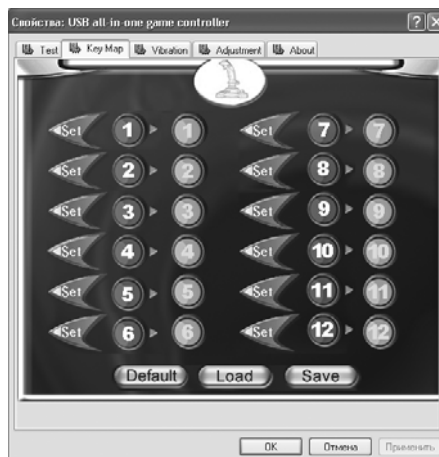

Fig. 6
- Reprogramming of buttons. Click KeyMap button in the menu (Fig. 6) on your PC interface to start programming keys in the setup window; then click the Set button in front of the digital buttons that need to be reprogrammed and press the same button on the flight joystick to confirm reprogramming.